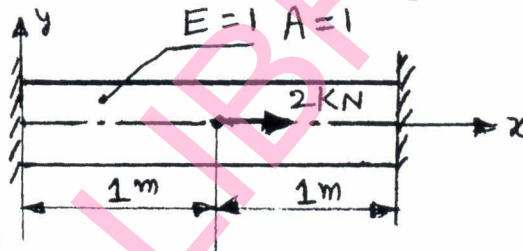

Fig.Q2(b)
- b. Using Raleigh's Ritz method, determine the displacement at mid point and stress in linear one-dimensional rod as shown in Fig. Q2(b). Use second degree polynomial approximation for the displacement. (12 Marks)